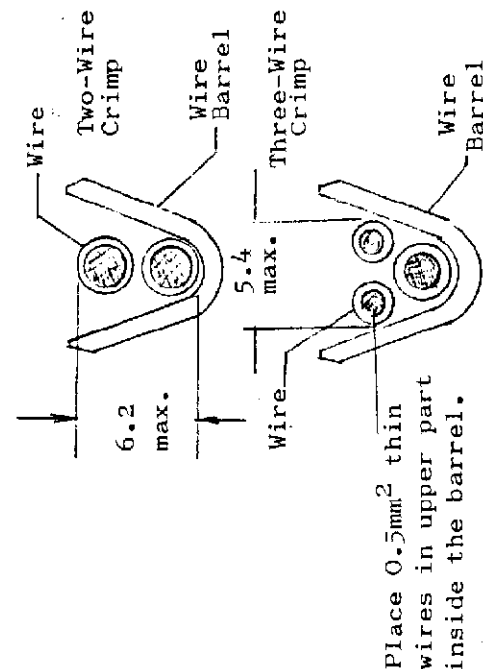

Fig. 4
- When to make a two-wire or a three-wire crimp in the same barrel, stack wires as shown in Fig. 4. In this case, outside diameter of their insulation shall conform to that given in Fig. 4